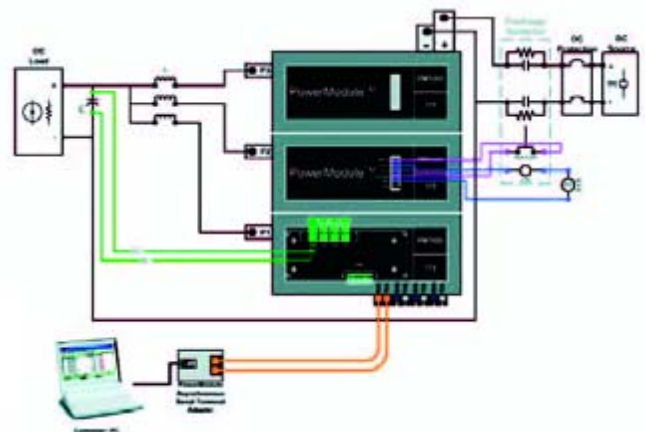

Figure 2a: Block diagram of a typical DC-DC Buck application.
The DC-DC converter function can be implemented with as little as one pole, but poles can be paralleled to allow for more current capability. Figures 2a and 2b show block diagrams of typical DC-DC applications.
- Buck mode (load voltage lower than source voltage) to regulate voltage/current at DC load (shown in Figure 2a)